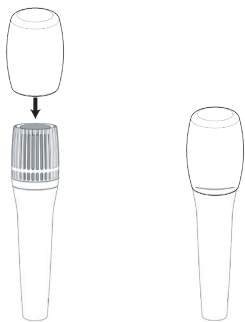

fig. 10
5. To increase the service life of the microphone when working with vocalists, it is recommended to use a windscreens (Fig. 10)